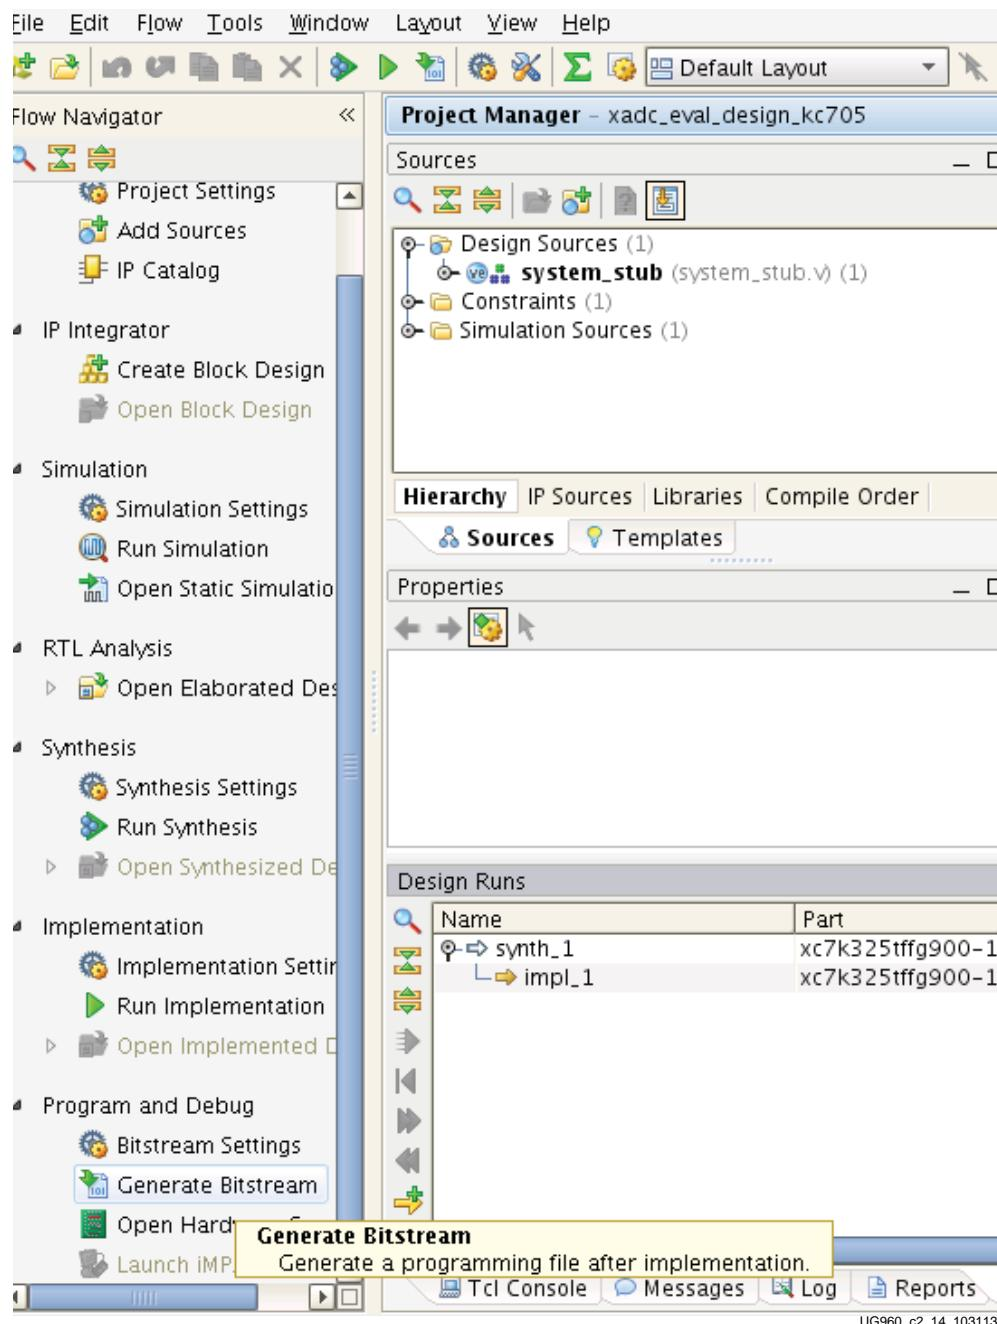

Figure 2-14: Selection of Export Design
2. Click **Generate Bitstream** to implement the design as shown in Figure 2-14.